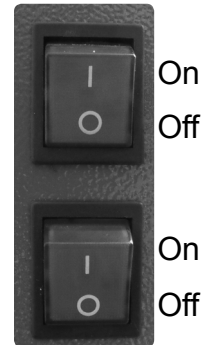

Fig.3
5.3 The heater has the following settings: See (Fig.3).
- Switch 'off' the heater at the on/off switches. As (Fig.3).